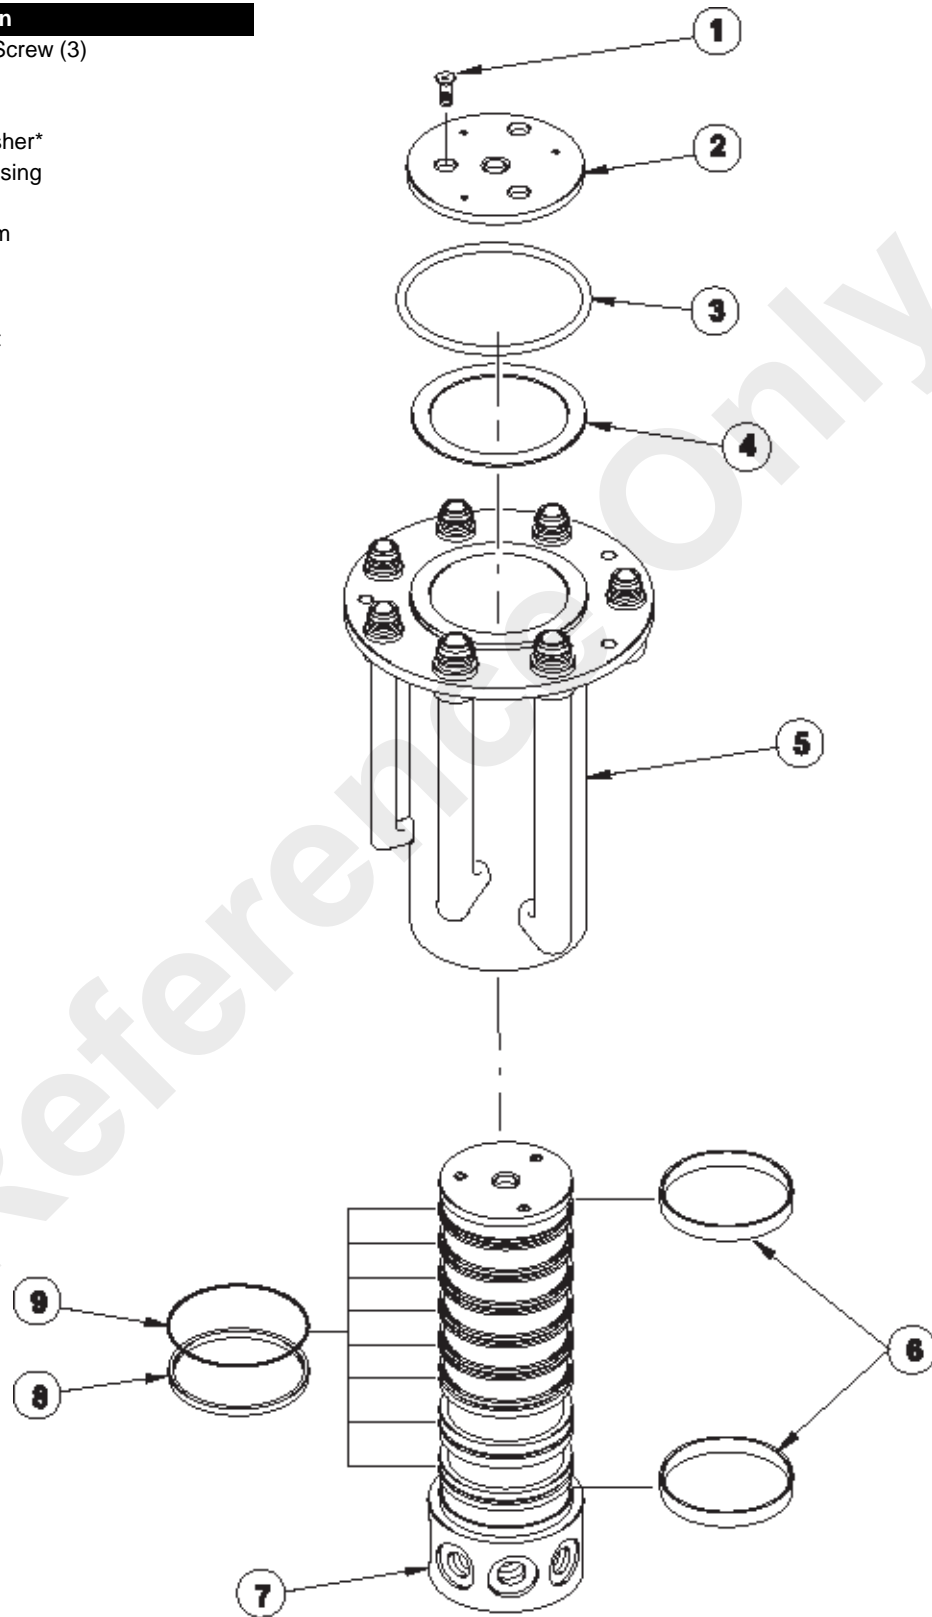

FIGURE 4-82
1. Remove the three hex socket flat head cap screws (1, Figure 4-82) from flange (2). Remove the flange (2), O-ring (3) and thrust washer (4). Discard the thrust washer and the O-ring.
2. Carefully pull the swivel stem (7) from swivel housing (5). If the swivel can not be pulled from the housing, hit the top of the swivel stem with a soft hammer.
3. Remove and discard seals (6), seals (8) and O-rings (9).
2. Place the swivel stem (7, Figure 4-82) on the work bench in the vertical position.
3. Walk the lower seal (6) down the swivel stem one flow groove at a time until it reaches the swivel stem base. Carefully work the seal until it slips into the seal groove at the swivel stem base.
4. Install one O-ring (9) into each of the seal grooves of stem (7). Make sure that the O-ring is not twisted in the groove.
5. Slip one seal (8) over the top of the spool and walk the seal down the swivel one flow groove at a time until it reaches the bottom seal groove.
11. Install the top seal (6, Figure 4-82) to stem (7).
12. Place the swivel housing (5) on the work bench with bottom of the housing up. Lubricate the lower 1/4 of the bore of the swivel housing with hydraulic oil.
14. Install thrust washer (4), O-ring (3) and plate (2).
15. Install three hex socket flat head cap screws (1) and tighten to a torque of 41 Nm (30 lb-ft).